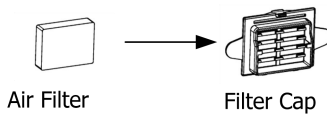

Fig. 19-4
(1) Attach the air filter to the filter cap, as shown in Fig. 19-4.